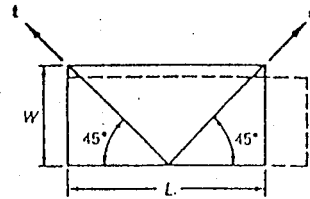

Fig. P2.37
Fig. P2.37 and P2.38
2.37. A thin rectangular plate is deformed uniformly into another rectangle as shown in Fig. P2.37. It elongates 10 per cent of its original length and contracts 3 per cent of its original width. Compute approximately the shear strain γ_{xt} .